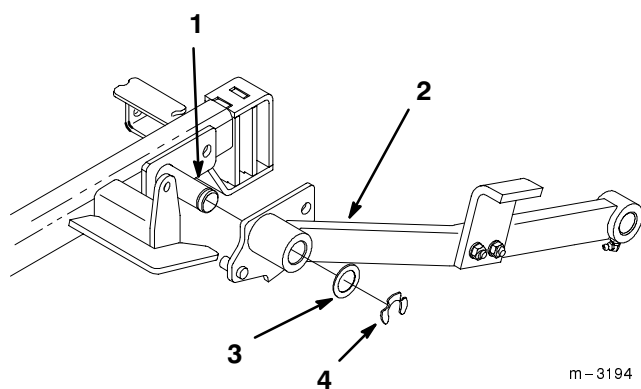

Figure 39
3. Remove the retaining ring and flat washer securing the push arm to the mower (Fig. 39).
6. Place push arm onto carrier frame pin and secure with 1-1/2" (38 mm) flat washer and retaining ring (Fig 39).